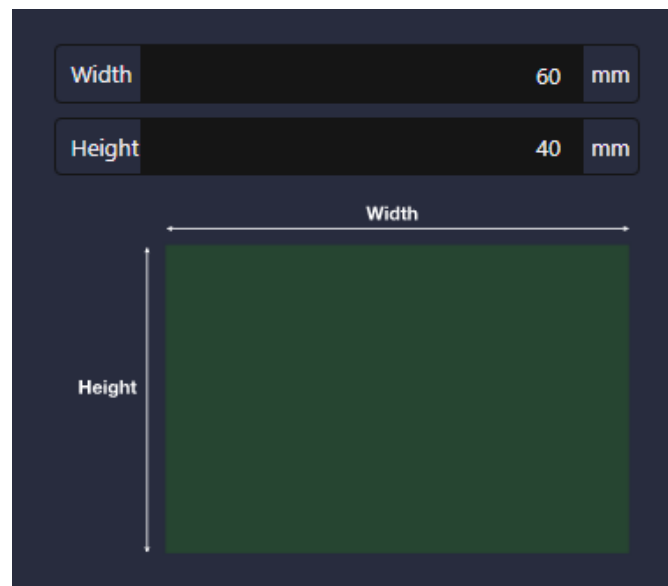

Fig. 12. Specifying board dimensions.
Step 2. Board dimensions: In this step we will define the dimensions of the board. At the moment only rectangular boards are implemented (Fig. 12).